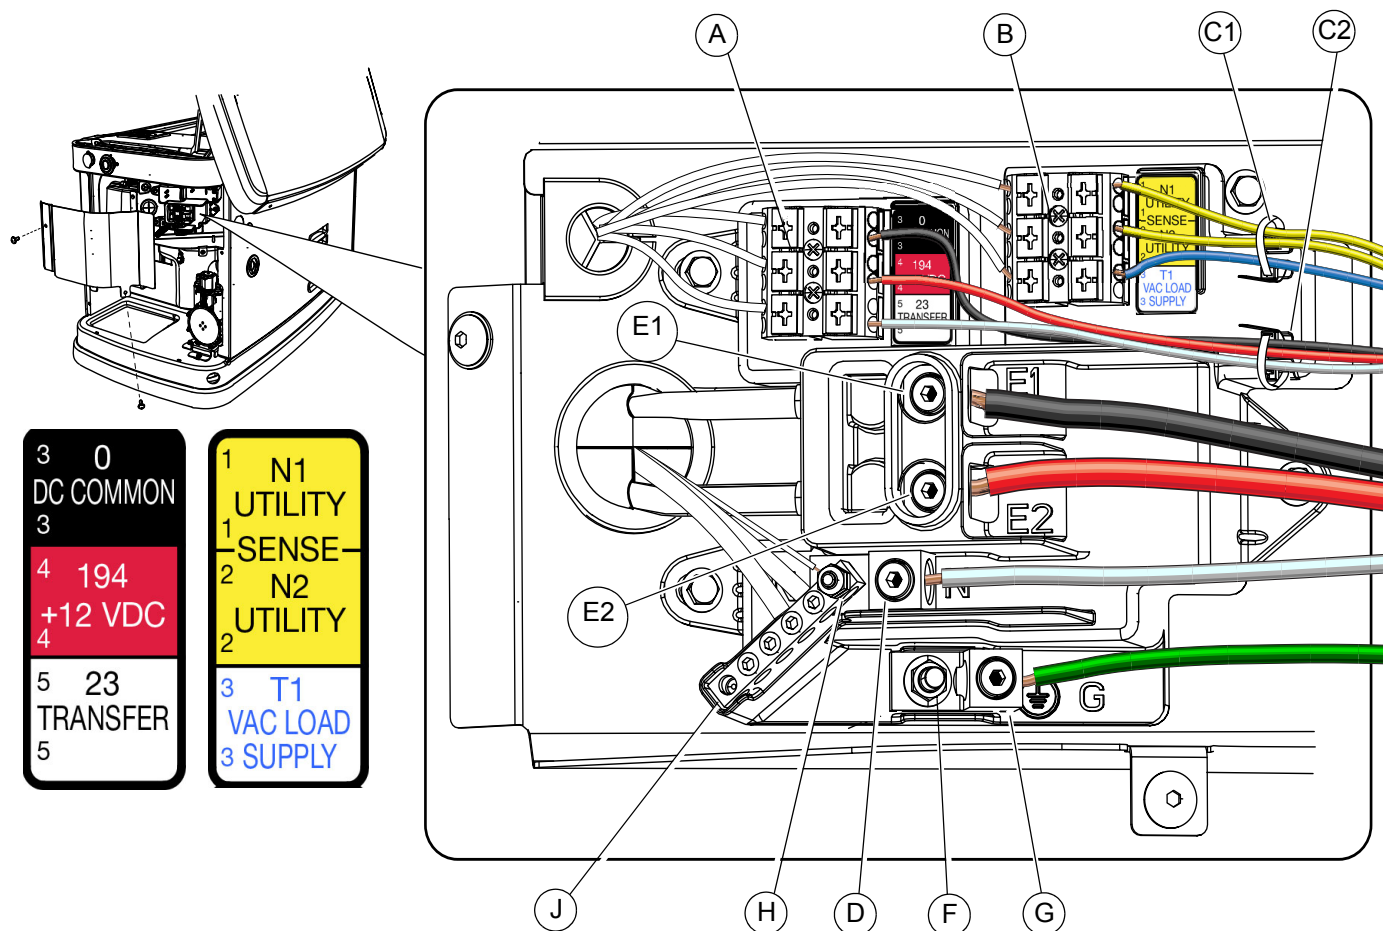

Figure 6-1. Electrical Wiring Connections
See Figure 6-1. The electrical wiring enclosure is located behind an access panel on the intake end of the unit. Remove the intake side panel as directed in Intake Side Panel Removal, and then remove the access panel. Connect wires according to the diagram and tables.
4. Strip the insulation from the ends of the wires. Do not remove excessive insulation. See Figure 6-1. Route the sense wires through the supplied wire tie (C1), and connect to the sense wire terminal block (B). Push down on the spring loaded connection point with a flat head screwdriver, insert wire, and release.
5. Using the same process, route the control wires through the second supplied wire tie (C2), and connect to the control wire terminal block (A).
2. See Figure 6-1. Loosen the lugs at neutral (D), ground (G), and power wire (mains) terminals (E1, E2).
NOTE: Neutral bonding – Installations that require the neutral to be bonded to the ground are done on the customer connections terminals inside the generator. See Figure 6-1. Connect a suitably sized wire from the neutral bar (J) to the ground stud (F). Torque the nut on the ground stud to 35 in-lbs (3.95 Nm). This is normally required when the generator is the source in a separately derived system. It is not required when the generator is a backup source in a utility supplied electrical system with a 2-pole transfer switch. The installation must be made in accordance with NEC Articles 250.30 and 250.35(A) if the generator will be installed as a separately derived system.